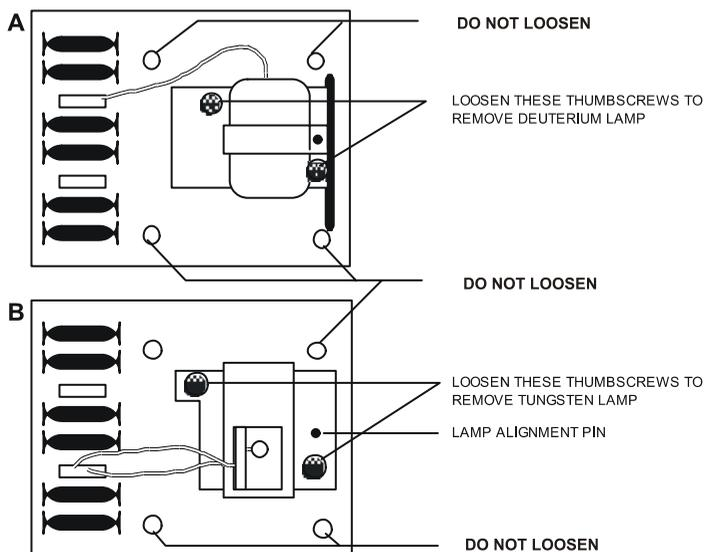

Figure 11: Lamp Assemblies (A: Deuterium, B: Tungsten)
3. Disconnect the UV lamp lead from the detector by gently pulling it straight back toward you. **DO NOT** twist the connector while pulling (see Figure 11).